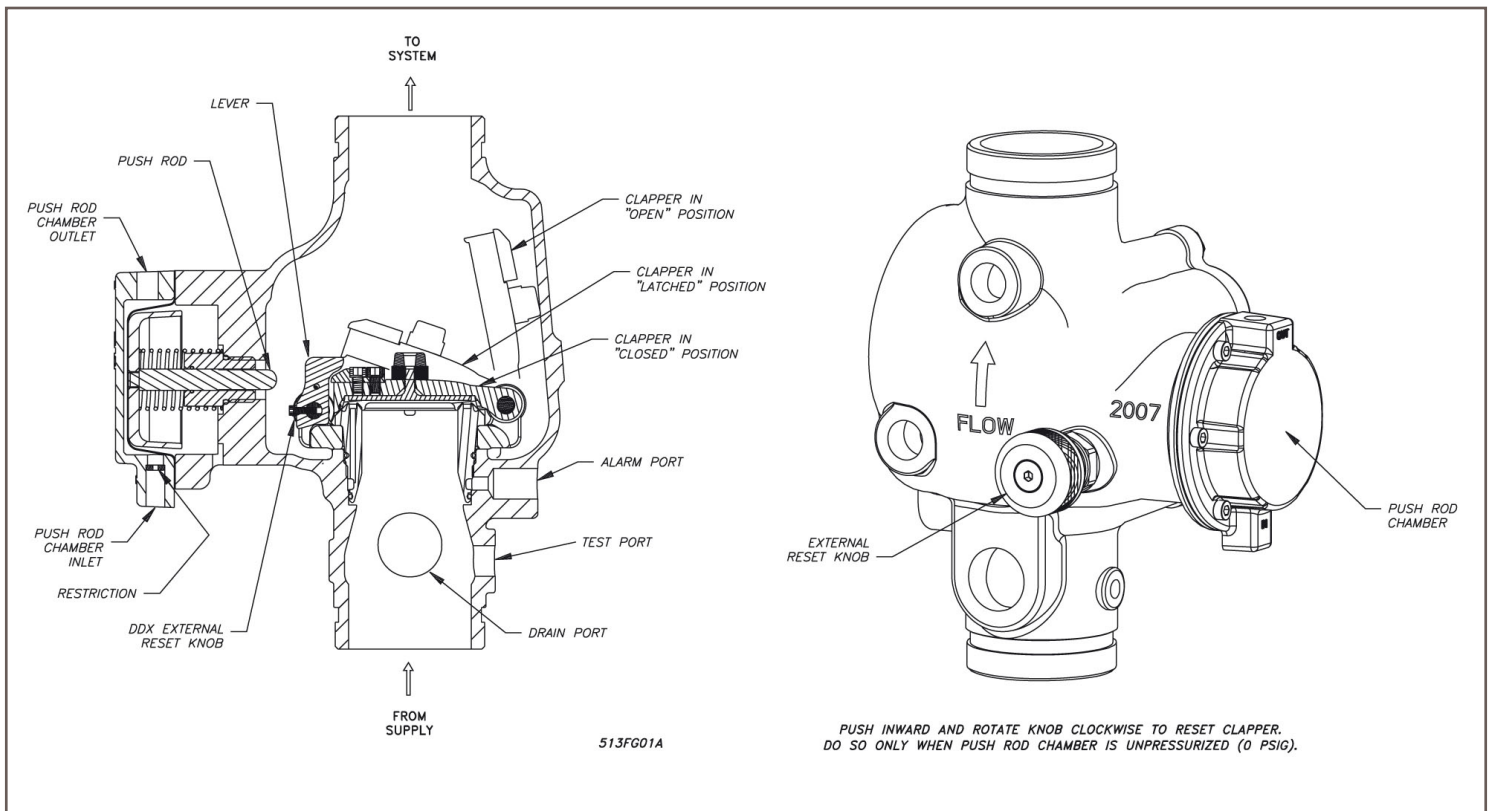

Fig. 1
Model DDX-LP Dry Pipe Valve is a hydraulically operated, differential-type valve (see Fig 1.) designed for use as a primary control valve in a lowpressure drypipe valve system. The trim set used with the Model DDX-LP Dry Pipe Valve contains the Model LP Dry Valve Actuator releasing device. This Actuator allows the system's air or nitrogen pressure requirement to be considerably less than the available water supply pressure (see Table A). The following benefits are a direct result of lower air pressure:
5. System maintenance is simplified since priming water is not required and the Dry Pipe Valve can be reset externally without cover removal. This is accomplished by pushing in and turning the external reset knob at the rear of the Dry Pipe Valve (see Fig.1). This feature provides a significant system-restoration time advantage.
The Model DDX-LP Dry Pipe Valve is shown in both closed and open positions in Fig. 1. In the closed position, the supply pressure acts on the underside of the clapper and also on the push rod through the push rod chamber's inlet restriction. The resultant force due to the supply pressure acting on the push rod is multiplied by the mechanical advantage of the lever and is more than sufficient to hold the clapper closed against normal supply pressure surges. When a sprinkler operates, there will be a loss of air or nitrogen pressure in the sprinkler system's piping which will cause the Model LP Dry Valve Actuator to open. The opening of this device allows a releasing discharge of water from the push rod chamber's outlet connection. Since the pressure cannot be replenished through the inlet restriction as rapidly as it is vented, the push rod chamber pressure falls instantaneously. When the push rod chamber pressure approaches approximately one-third of the supply pressure, the upward force of the supply pressure acting beneath the clapper overcomes the lever-applied force thereby opening the clapper. Once the clapper has opened, the lever acts as a latch, preventing the clapper from returning to the closed position. Water from the supply flows through the Dry Pipe Valve into the system piping. Water also flows through the Dry Pipe Valve's alarm outlet to the alarm devices. After system shutdown, resetting the Model DDX-LP Dry Pipe Valve is quite simple. Doing so only requires pushing in and turning the reset knob at the rear of the valve (see Fig. 1). The external reset feature of the Model DDX-LP Dry Pipe Valve provides a means for simple, economical system testing, which is one essential facet of a good maintenance program. The external reset feature does not, however, eliminate another important facet of good maintenance, namely, periodic cleaning and inspection of the internal valve parts. In the event that water builds up inside the valve due to condensate from the air supply system or water left inside from valve system testing, a drain is available for venting. After closing the main supply valve, a small valve over the drain cup can be opened slightly until the water inside the valve body and the main pipe column has drained. See the section titled "Draining Excess/Condensate Water From System" in this bulletin for the detailed procedure.